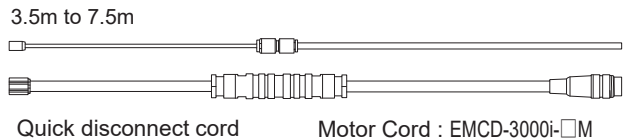

Fig. 17
- "Hose Length" indicates total hose length consisting of the Quick Disconnect Hose and the motor cord hose. See Fig. 17 and Table 2 to see how to calculate "Hose Length".
\*Note 1: "Hose Length" indicates total hose length consisting of the Quick Disconnect Hose and the Motor Cord Hose. See Fig.17 to see how to calculate "Hose Length".